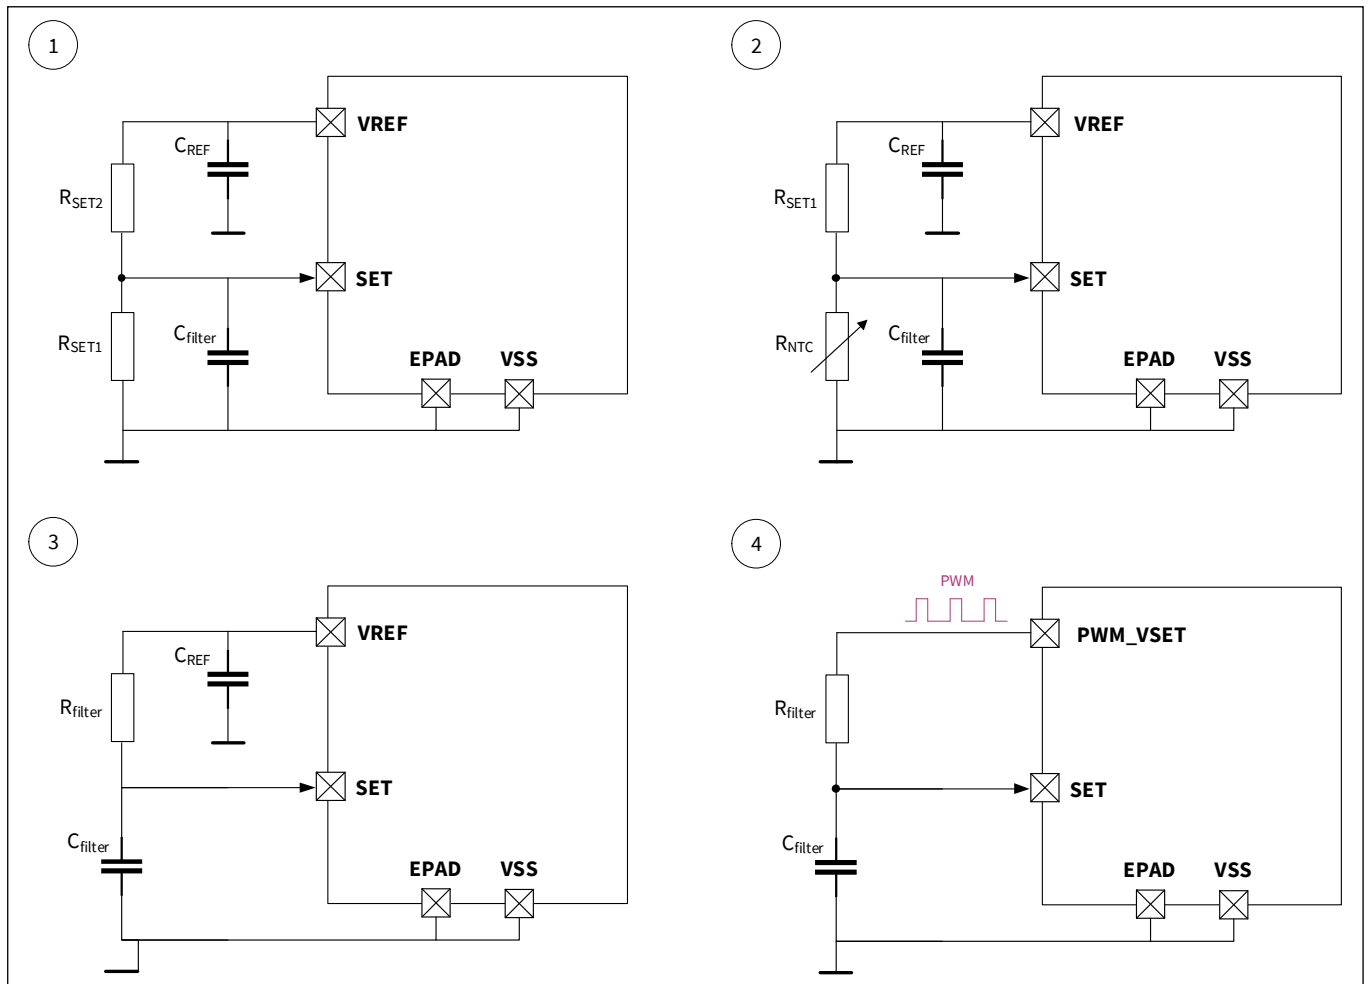

Figure 10 Use cases for analog control pin SET
3. If the analog control feature is not needed, connect the SET pin to the VREF pin with an RC filter as shown in Figure 10